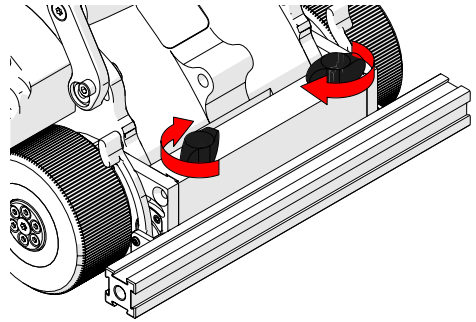

Fig. 79 - Tighten wing knobs
2. Once the frame bar placed appropriately, rotate the two black wing knobs to clamp the component in place (*Fig. 79*).